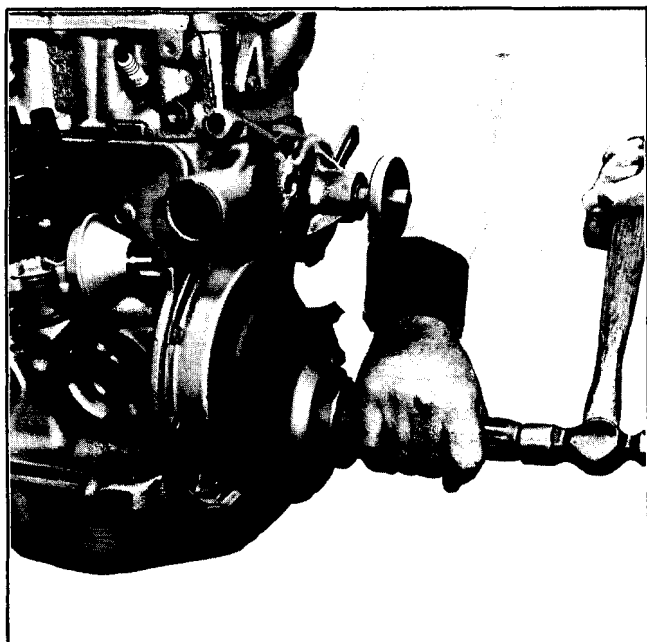

Fig. 6-43 Installing Timing Cover Oil Seal
2. Install new lip seal with lip toward inside of cover and drive it into position with tool J-23042 (Fig. 6-43).